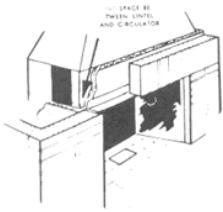

Fig. 5: Setting the lintel
5. When the top of the fireplace opening is reached, use a metal lintel of adequate strength to support the masonry work above. Set the lintel low enough to conceal the metal apron of the Circulator Unit. Pack loosely generous quantities of insulation behind and at the end of the lintel. (See Figure 5).